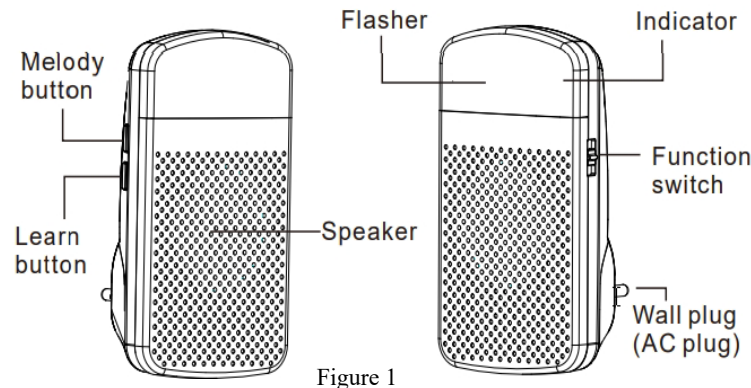

Figure 1
- The LRA-DCRXS-L has two zones. Each transmitter will occupy a zone. Once two (2) transmitters have been paired to a receiver, you cannot add one unless you delete the existing transmitters from memory.
- Assign one (1) of eighteen (18) available melodies to each transmitter.
- The LRA-DCRXS-L has three operational modes: strobe only, sound only, and strobe + sound (see Figure 1).
Ensure the function switch (see Figure 1) is set to sound mode for programming and plugged into a wall outlet and the battery is installed in the transmitter.
2. Press on hold the • learn button (see Figure 1) for three seconds. A red LED light will blink, indicating the receiver is in pairing mode (see important notes above). Release the • learn button once you notice the red LED.
During regular operation, if you notice the red LED under the strobe lens (see “flasher in Figure 1) tends to stay on after the strobe flashes, this indicates you need to change the battery in a transmitter programmed to the receiver.